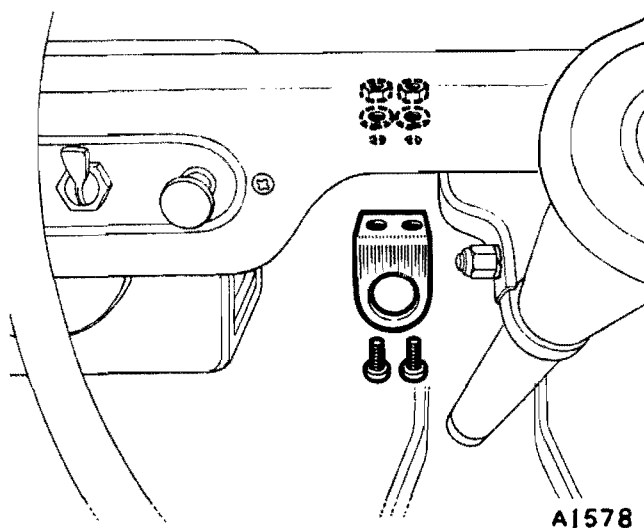

Fig. R.24
- (1) Remove the shelf lining and position the pump assembly bracket under the parcel shelf as shown in Fig. R.24; mark off and drill two  $\frac{3}{32}$  in. (5.56 mm.) holes in the shelf.